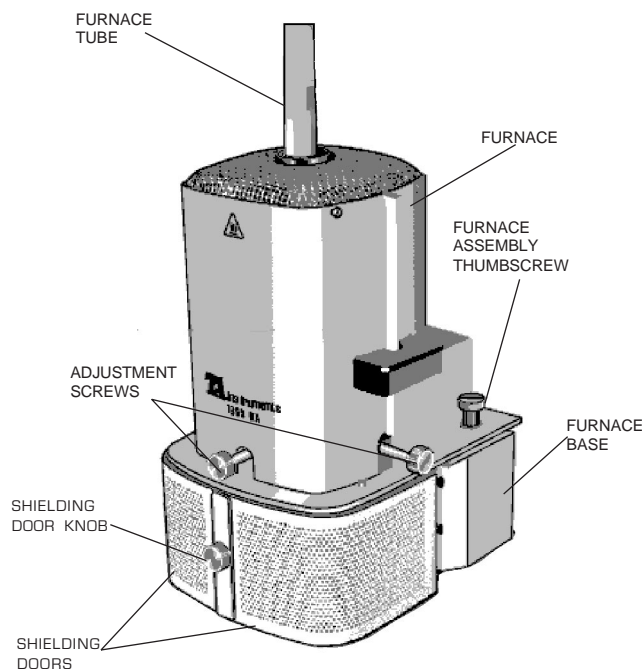

Figure DTA.3
1. Loosen the two furnace assembly thumb-screws, located on either side of the furnace assembly (see Figure DTA.3), and then lift the furnace off the cell.